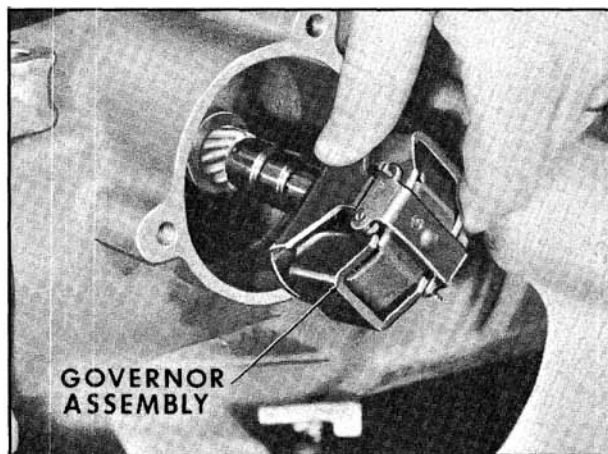

Fig. 6-542 Installing Governor Assembly
1. Slide governor into its bore in case. Turn governor assembly so teeth on governor gear engage teeth on output shaft. (Fig. 6-542)